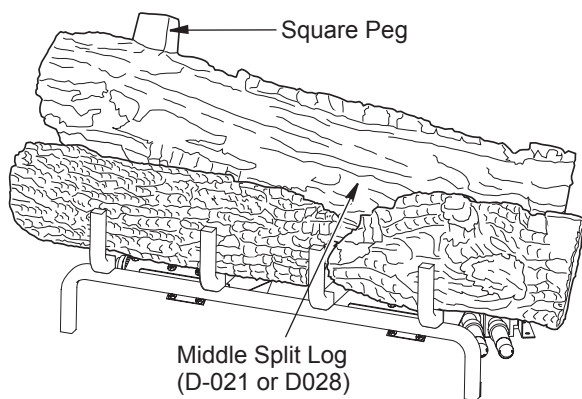

Figure 21 - Installing Middle Split Log (D-021)
- Find the middle split log (LMF42-SC: D-021 or LMF48-SC: D028). See Figures 21 and 21A. The split side of the log faces forward. The log has a notch that fits around the burner tube on the right side. The left side of the burner tube fits into the notch on the back side of this log. The log is placed properly when it sits parallel to the tube burner and the square peg is pointing up. See figures for reference.